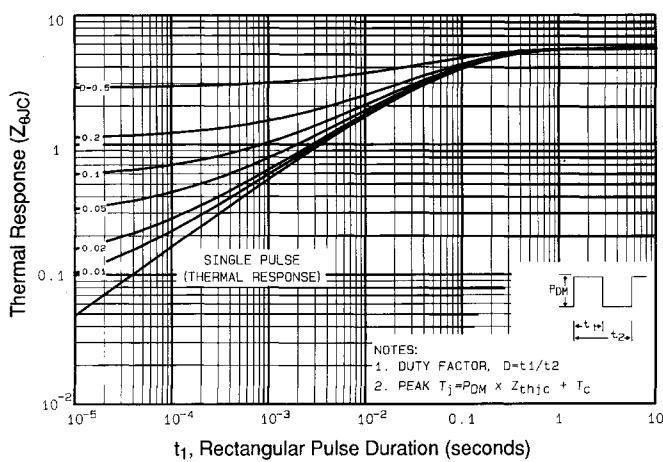

Fig 11. Maximum Effective Transient Thermal Impedance, Junction-to-Case
① Repetitive rating; pulse width limited by max. junction temperature (See Figure 11)
③ $I_{sp}\leq 10\text{A}$, $di/dt\leq 90\text{A}/\mu\text{s}$, $V_{DD}\leq V_{(\text{BR})\text{DSS}}$, $T_J\leq 175^\circ\text{C}$ ⑤ $t=60\text{s}$, $f=60\text{Hz}$ ② $V_{DD}=25\text{V}$, starting $T_J=25^\circ\text{C}$, $L=1.2\text{mH}$